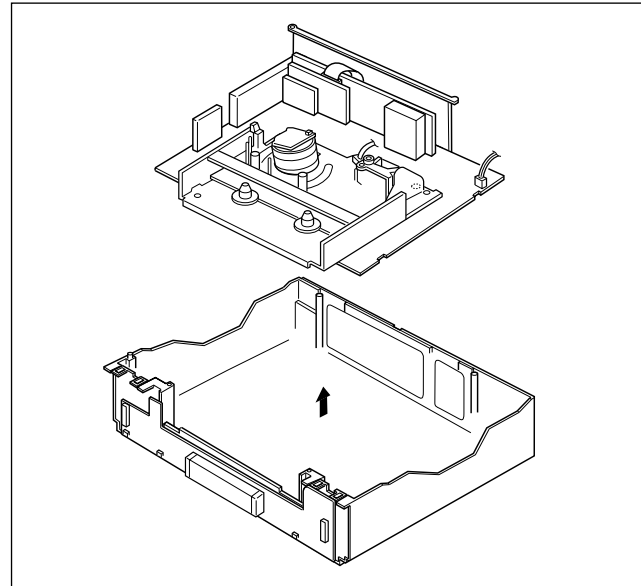

Fig. 1-4-2
- (6) Remove the Main board and Mechanism assemblies together while holding the edge of the Main board assembly. At this stage be careful of the power cord and prongs of the jacks on the back side. (Refer to Fig. 1-4-2.)